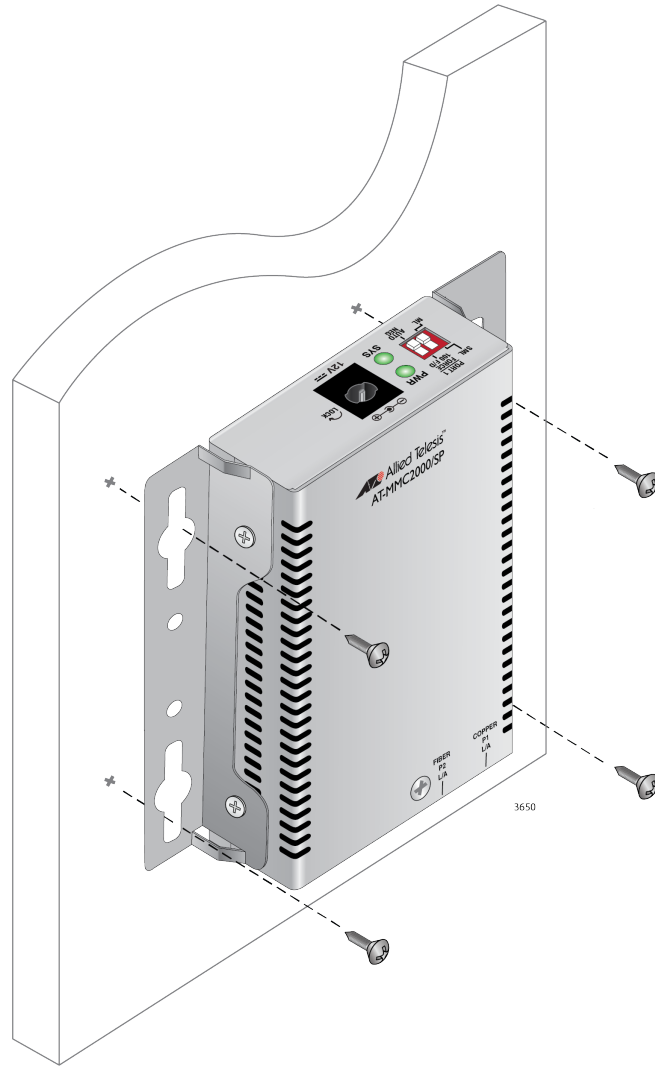

Figure 39. Securing the Media Converter to the Wall
10. Secure the media converter unit to the wall using four wall-mounting screws. See Figure 39 on page 66.